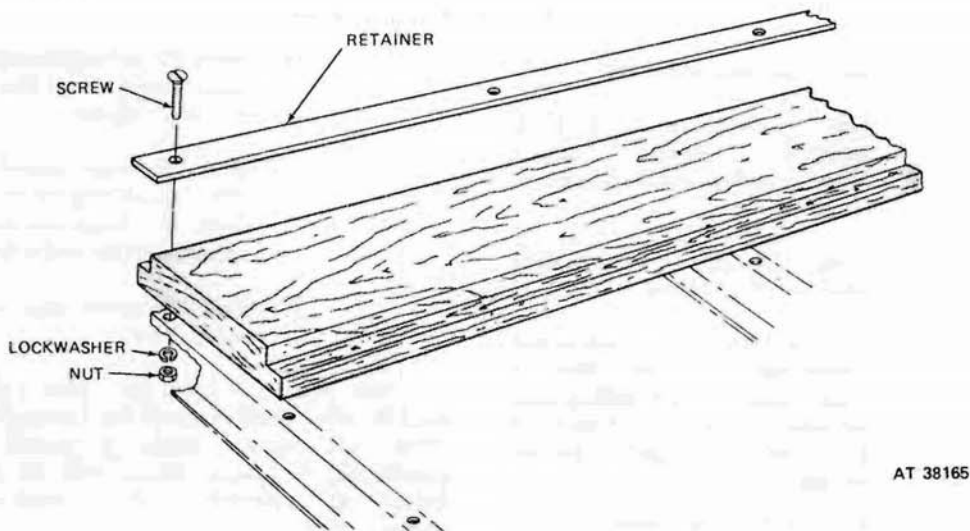

Figure 478. Floorboard assembly.
d. *Floorboards (Fig. 478).*
- (1) *Removal.* Remove nuts, lockwashers, machine screws, and floor retainer from floorboards and frame. Remove floorboards from frame, as required.
- (2) *Cleaning, inspection, and repair.* If a steam cleaner is available, steam clean the floorboards, retainers, and mounting hardware. If steam cleaner is not available, use other approved cleaning methods (non-flammable, and non-toxic). Inspect the boards for warpage, breaks, and other damage. Replace defective boards. Inspect the retainers and mounting hardware for cracks, bends, breaks, stripped threads,